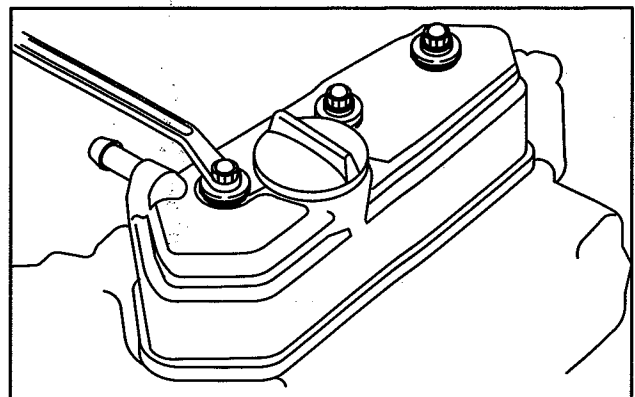

Fig. 41 – Install Valve Cover
2. Install valve cover, Fig. 41.